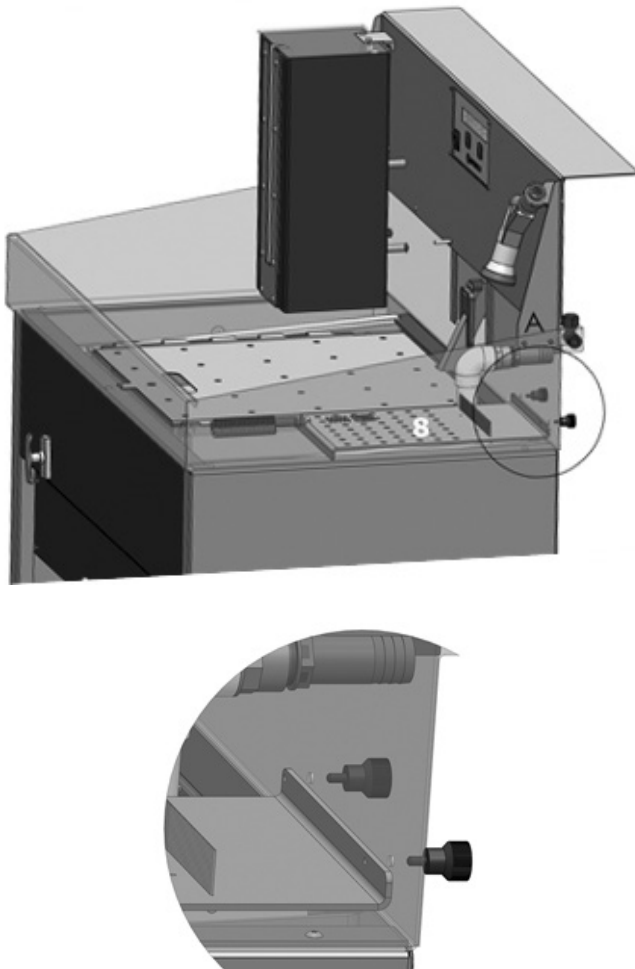

Fig. 7
- Place the station with the holes at the rear right of the tank and fasten it from the rear of the system using the two knurled screws (8) Fig. 7.